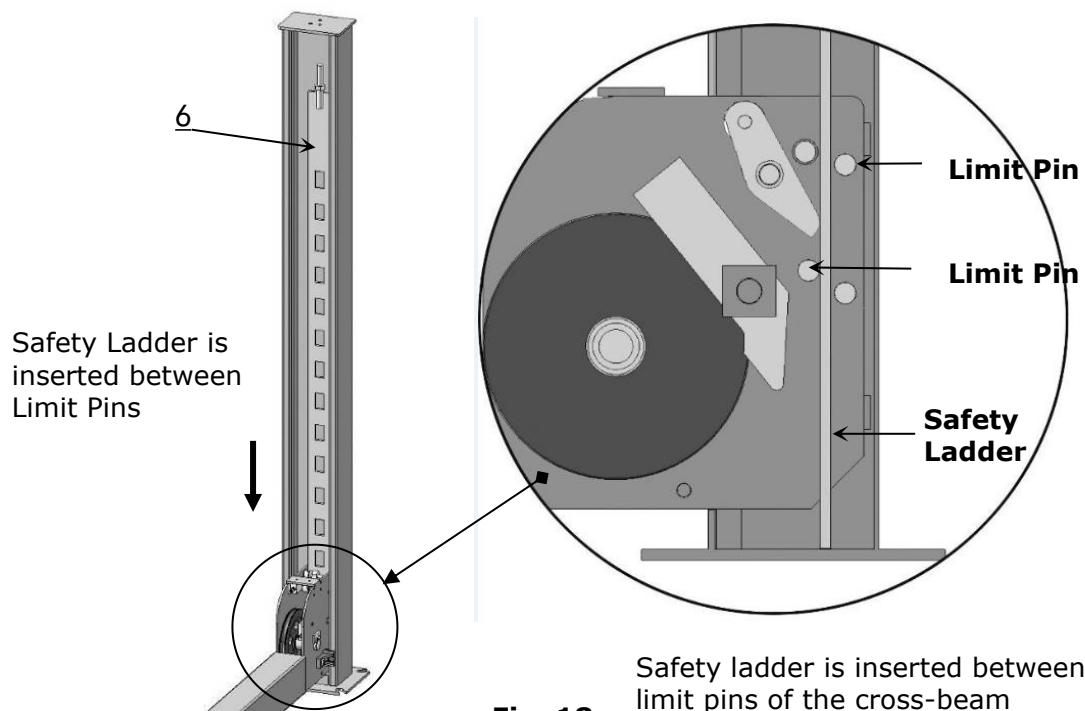

Fig. 18
1. Take off the pulley safety cover and unscrew the four upper nuts of the Safety ladders, and then adjust the four lower nuts to be at the same position, then install the safety ladders (See Fig. 18).